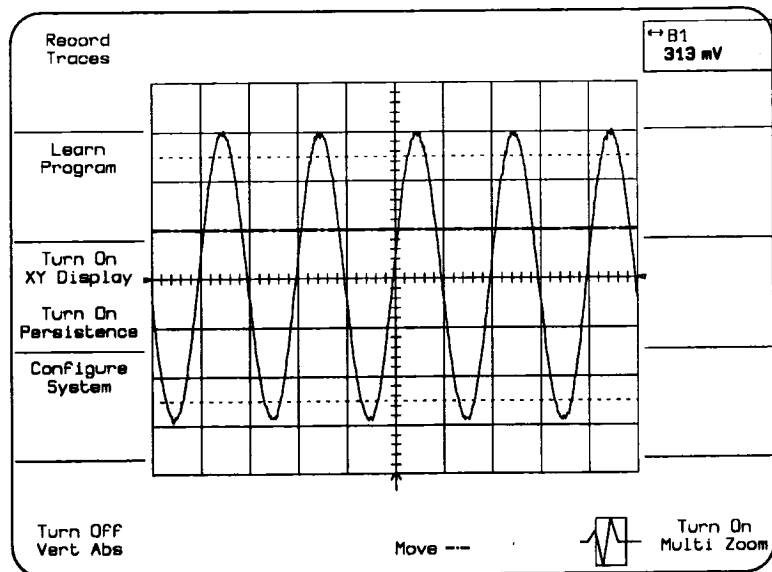

Figure 3.20: Vertical Absolute measurement on Trace 1
In this mode the 7200A measures the absolute vertical value of the single cursor and displays it under the trace label for each trace on the grid. See Figure 3.20.
- Select the Vertical Absolute cursor by repeatedly pressing the CURSOR MEASUREMENTS key until Vert Abs appears in the softkey label in the lower left screen. One horizontal line, the cursor, appears similar to that shown in Figure 3.20.
- Rotate the inner knob (17) to position the cursor.